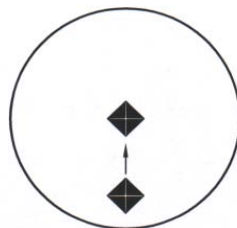

Figure 6-10 Image is beneath the center
2. The image is beneath the center. Refer to Figure 6-10.